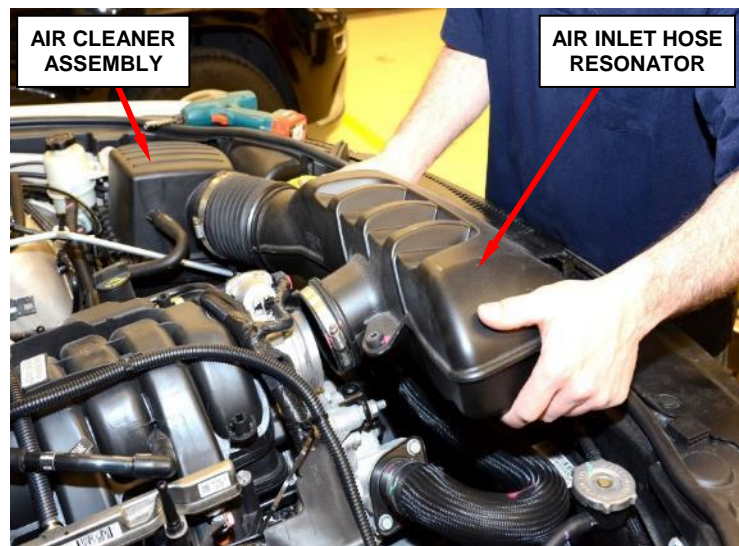

Figure 16 – Intake Air Resonator
4. **For vehicles with a 5.7L engine**, remove and save the air inlet hose resonator (Figure 16).
5. Remove and save the air cleaner assembly (Figure 16).
29. **For vehicles with a 5.7L engine**, install the air inlet hose resonator (Figure 16).